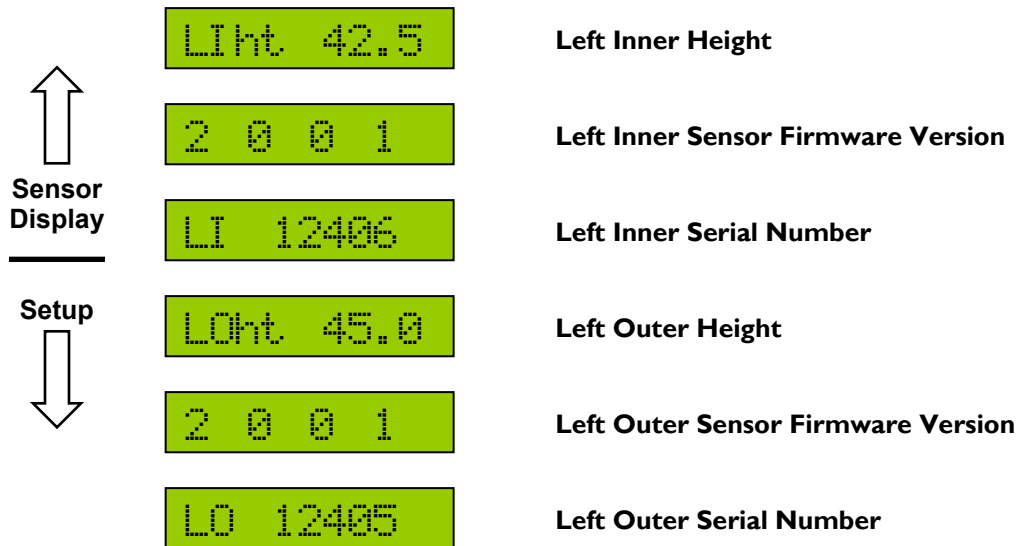

Figure 8: Sensor Setup Menu (for Left Channel)
- Navigate to the sensor location to be changed, for example, "LO" for the left outer sensor. This screen will show the previously installed sensor serial number (if any) as shown in **Figure 8**.
- Navigate to the location measured, for example, "LOht" for the left outer sensor (**Figure 8**).